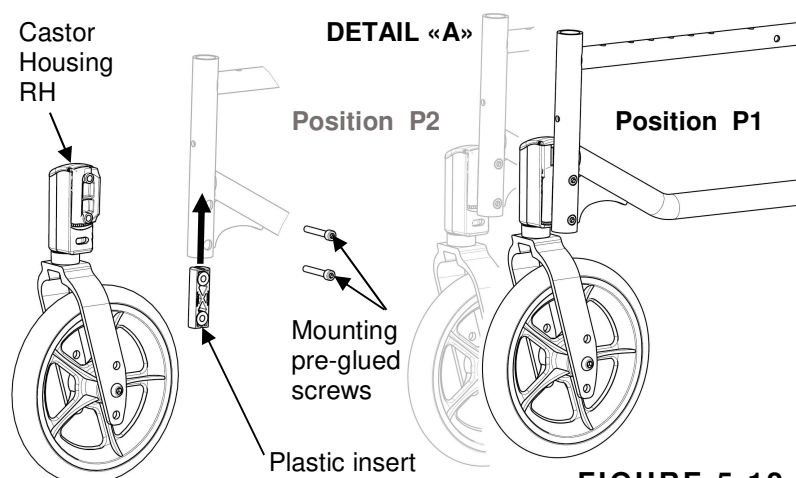

FIGURE 5.12 Adjusting Castor Assembly Position
NOTE: For this procedure, refer to FIGURE 5.12.
2. Move the castor housing assembly to one of two positions. Refer to Detail “A” of FIGURE 5.12. Always check that the plastic insert is present before tightening the mounting screws.